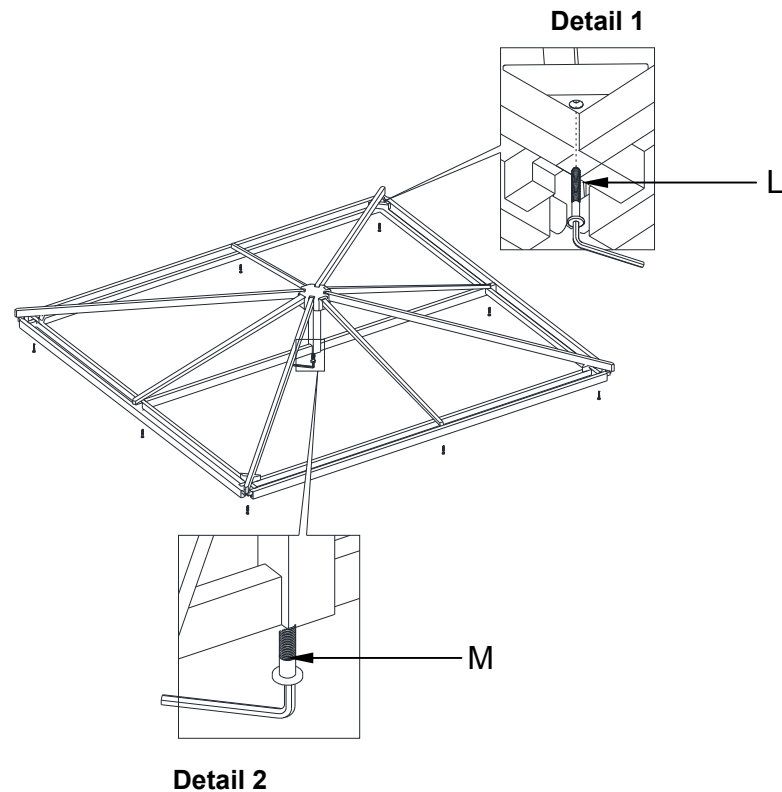

Fig. 8
8. From underneath, insert 8 pcs Short Allen Bolts (L). Tighten with the supplied Allen Key. (See **Fig.8**) Detail 1
Assemble the center pole using 1 pc Long Allen Bolt (M). Tighten with the supplied Allen Key. (See **Fig.8**) Detail 2